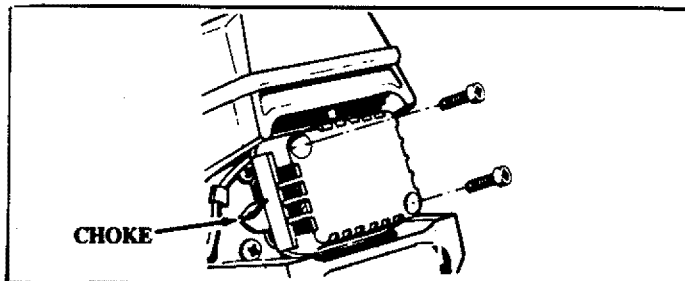

Figure 26
1. Loosen the two screws on the Air Filter Cover enough to remove the cover from the engine. Figure 26.